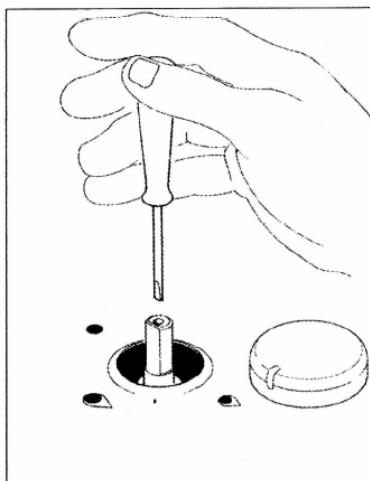

Fig. 8
- 2) Remove the knob (Fig.8) of the tap which is set for standard pressure. The knob is found on the bar of the tap itself.
- 3) Beside the tap bar on the work top, use a small screwdriver that fits the screw (gold) found on the lower part of the tap (Fig.8) and turn the fixing screw to the right or left until the flame of the burner is regulated in the most suitable way to MINIMUM.